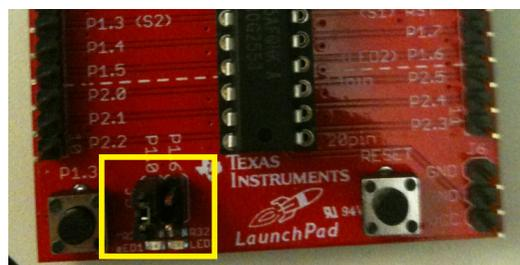

Figure 10. LaunchPad J5 Header Connections
2. With the LaunchPad still unplugged, remove the right-most jumper on the J5 header to match the yellow box in Figure 10.